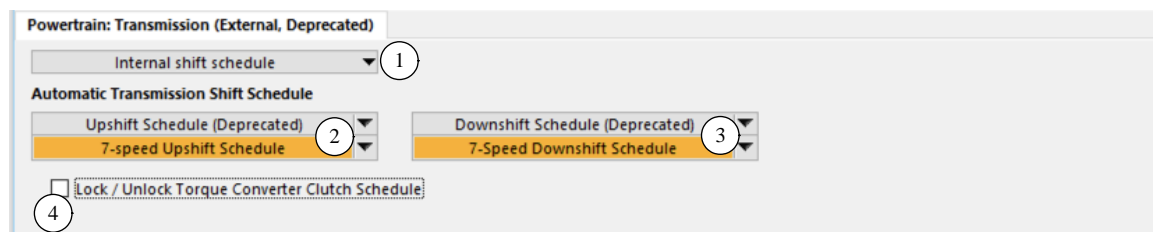
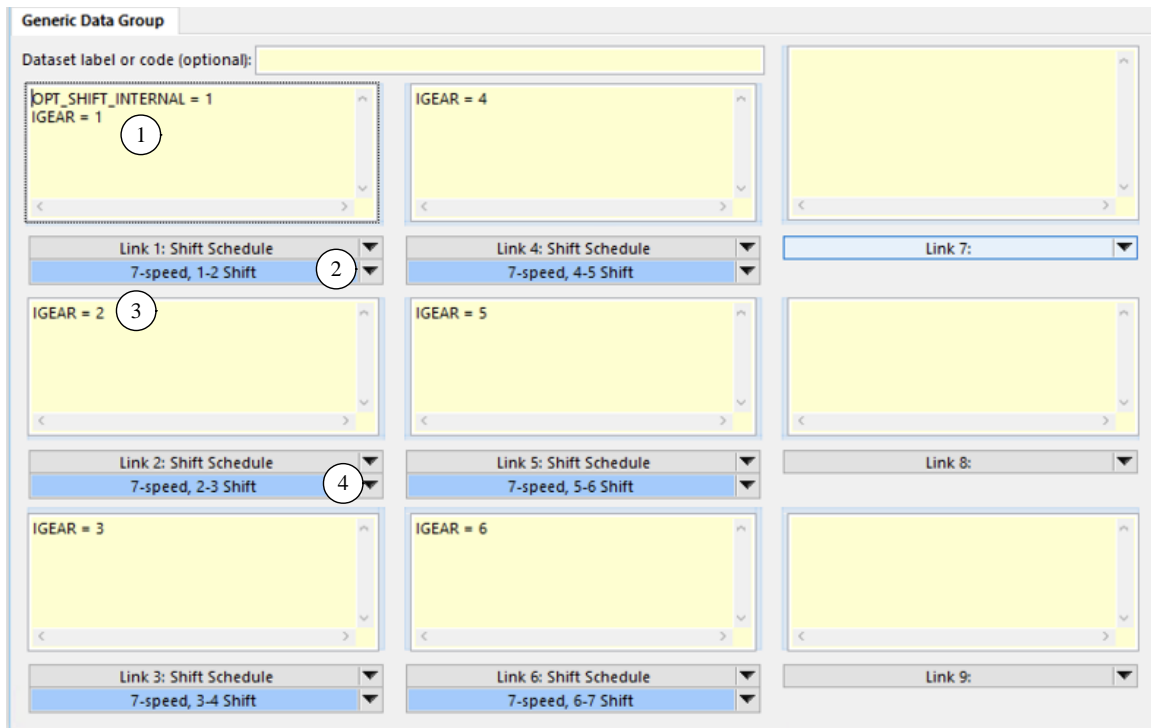
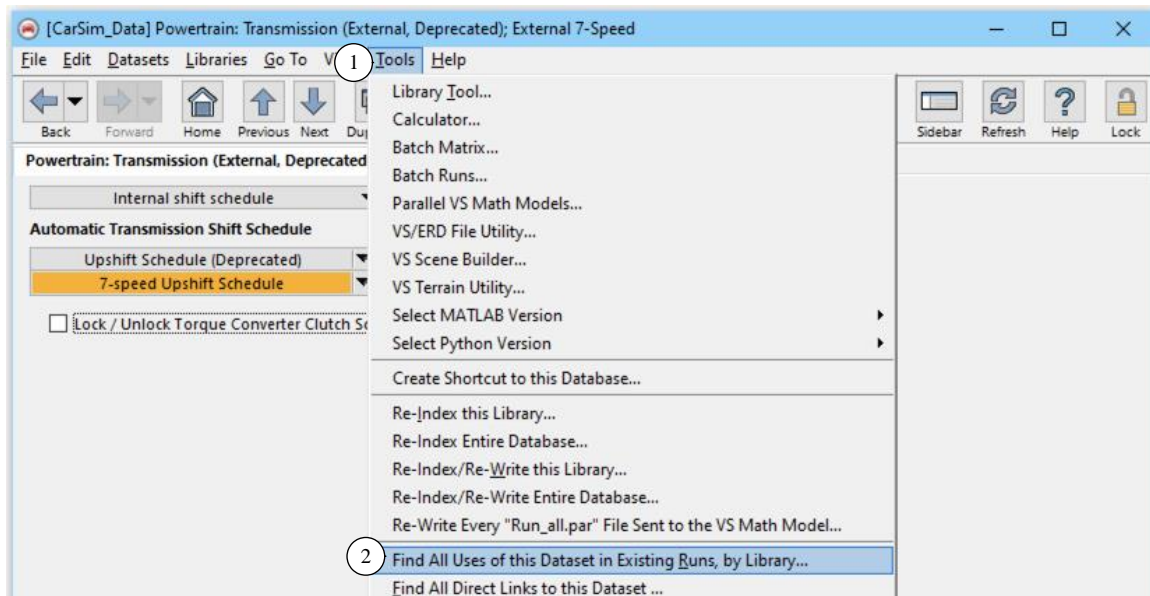

Figure 3. *Powertrain: Transmission (External, Deprecated) library screen.*
Figure 8. The Generic Data Group library, used for a 7-speed shift schedule.
Figure 10. Use the Tools menu to find all uses of the current dataset.
Figure 3 shows the deprecated External Transmission screen for a dataset that also uses an internal shift schedule ①. With this setting from the drop-down control ①, two links are shown that have typically been linked to two other deprecated libraries: the Upshift Schedule ② and the Downshift Schedule ③.
The library **Generic Data Group** is well-suited for assembling a set of links to datasets from other libraries, along with custom keyword assignments. Figure 8 shows a dataset that replaces the dataset in Figure 3 that required three deprecated libraries. The first field (1) enables the internal shift scheduling with the parameter OPT_SHIFT_INTERNAL and sets the current gear to 1 using the index parameter IGEAR.
The information provided to the VS Math Model is the same using the Generic Data Group dataset (Figure 8), which links to six datasets from the **Powertrain: Shift Schedule** library.
For example, consider the same Deprecated dataset with the seven-speed shift schedule shown in Figure 3 and shown again in Figure 10. Find text in an existing Run_all Parsfile and used that text to replace the deprecated libraries using the following steps.
1. Use the **Tools** menu ① command **Find All Uses of this Dataset in Existing Runs, by Library...** ② (Figure 10).